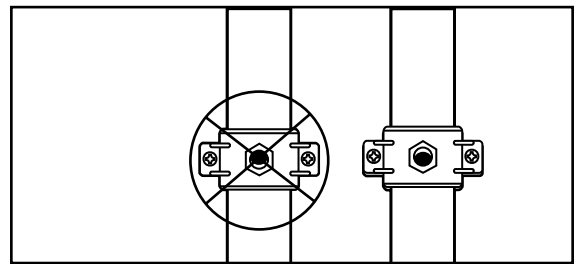

Figure 13
4. Make sure the black rubber gasket is adhered to the inside of the drain clamp and place the drain clamp assembly over the drilled hole. Look through the hole and position the clamp so that the center of the clamp hole is slightly higher (about 1/16 inch) than the center of the drilled hole. (Figure 13). Tighten the clamp securely.